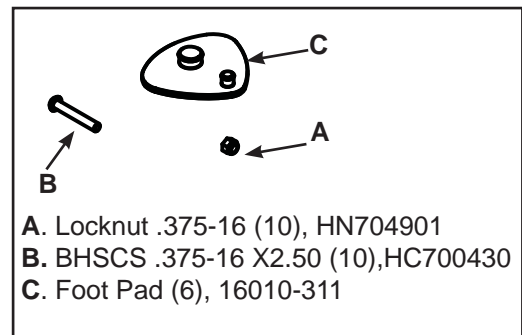

Figure 1
- A. Remove hardware pack and verify contents See Figure 1.